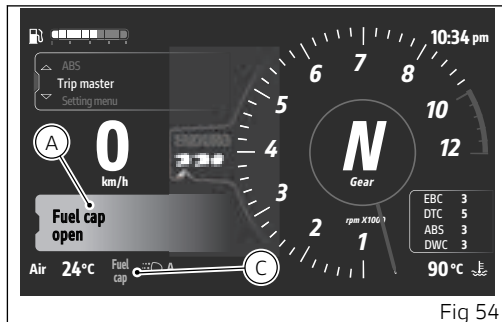

Fig 54
- when activated, it is displayed for the first 5 seconds in the large format (A main screen, Fig 54)
- then it is displayed in the small format (C main screen, Fig 54)